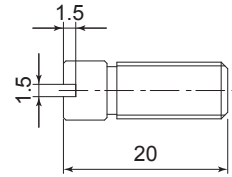

Fig. 31
- Adjuster Bolt slot dimensions: Slot Width 1.5mm / Slot Depth 1.5mm (Fig. 31).